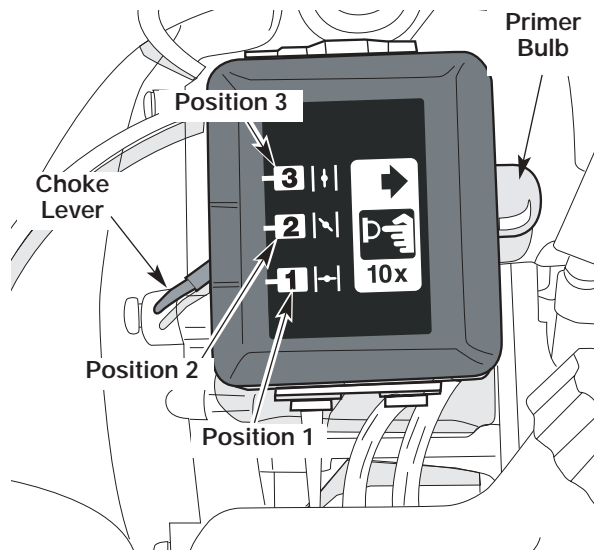

Fig. 7
3. Fully press and release the primer bulb 10 times, slowly. Some amount of fuel should be visible in the primer bulb and fuel lines (Fig. 7). If you can't see fuel in the bulb, press and release the bulb as many times as it takes before you can see fuel in it.
4. Place the choke lever in Position 1 (Fig. 7).